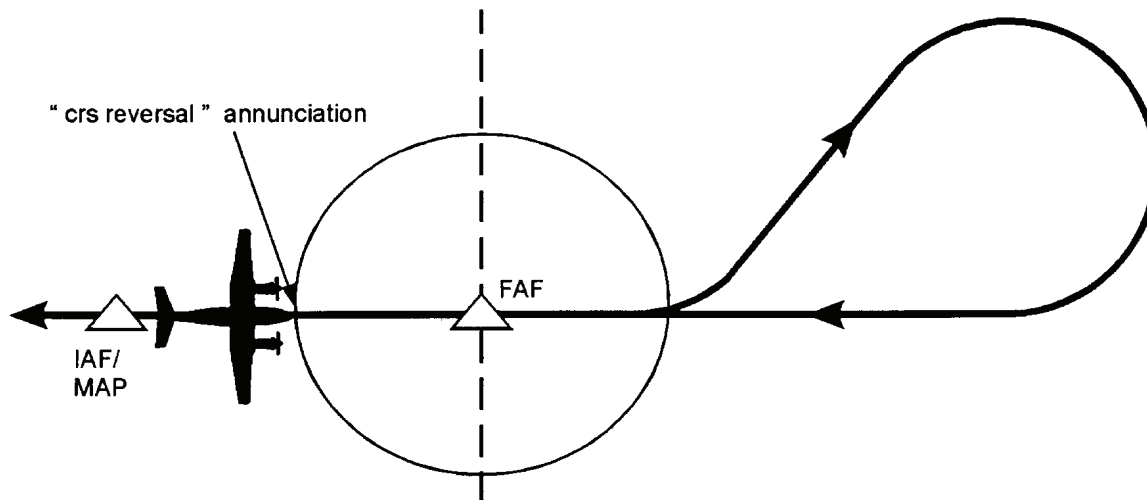

Figure 3B-90. Case III: Extended FAF Course Reversal
(12) *Radar Vectoring to Final Approach.* If ATC gives radar vectors to intercept the final approach course of an FMS approach, select Direct-to the FAF (F attribute waypoint) on the Flight Plan page. The FMS-800 will display the message FINAL COURSE XXX° where XXX is the final approach course, as shown in Figure 3B-91, but will execute a course direct-to the FAF. To intercept the final approach course, select the CRS line select with the FINAL COURSE displayed in the scratchpad. The FMS will provide lateral guidance to guide the aircraft to intercept the final approach course into the waypoint.